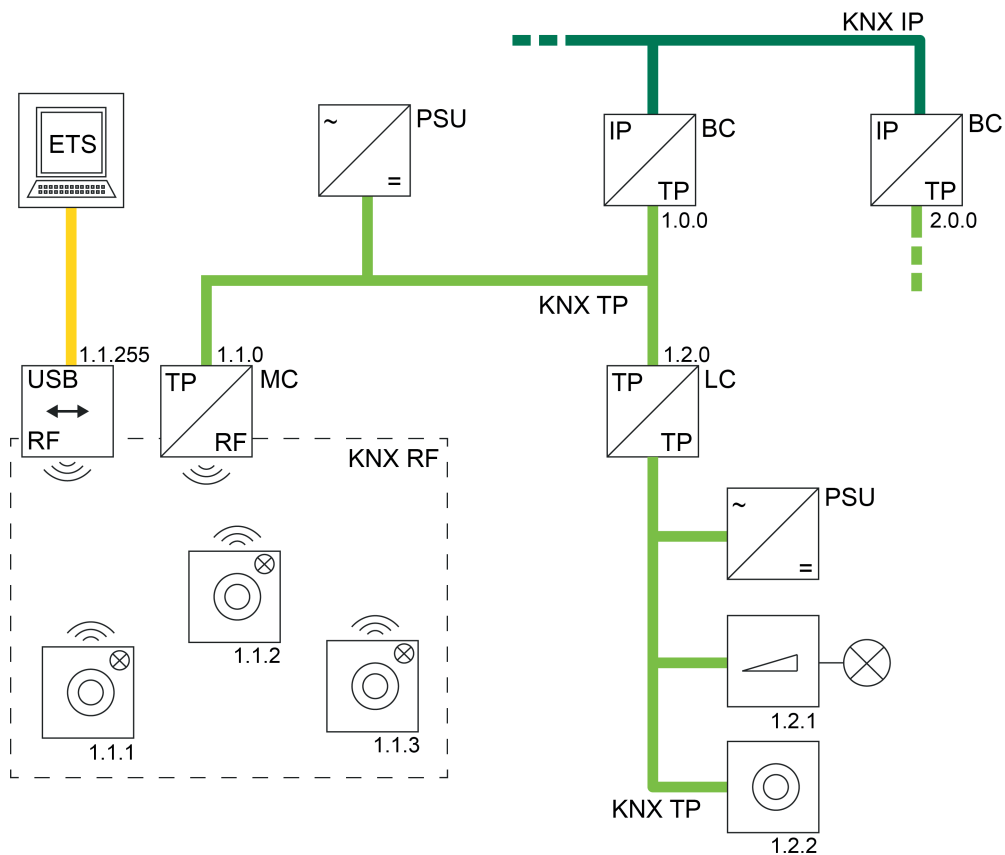

Figure 20: Example of a possible KNX topology with a KNX RF USB data interface
- Use of a KNX RF USB data interface (figure 20):